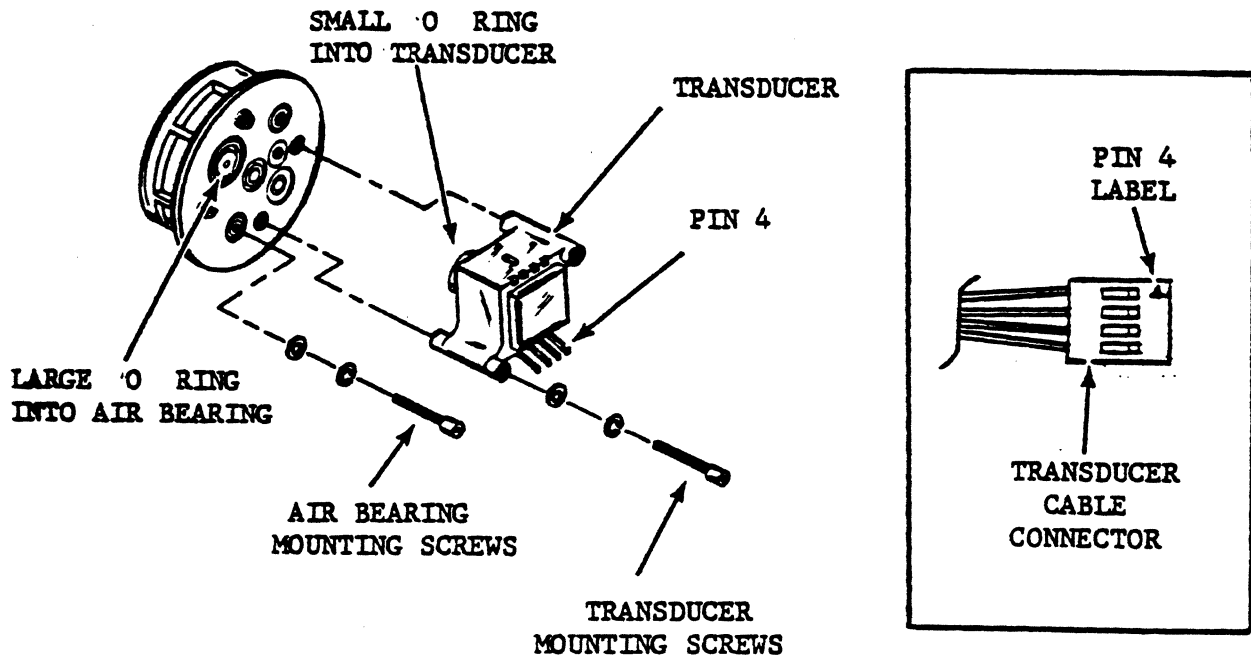

Figure 6-18. Air Bearing Transducers
8. Re-attach connector P1 to the transducer pins. Refer to figure 6-18 for pin orientation.